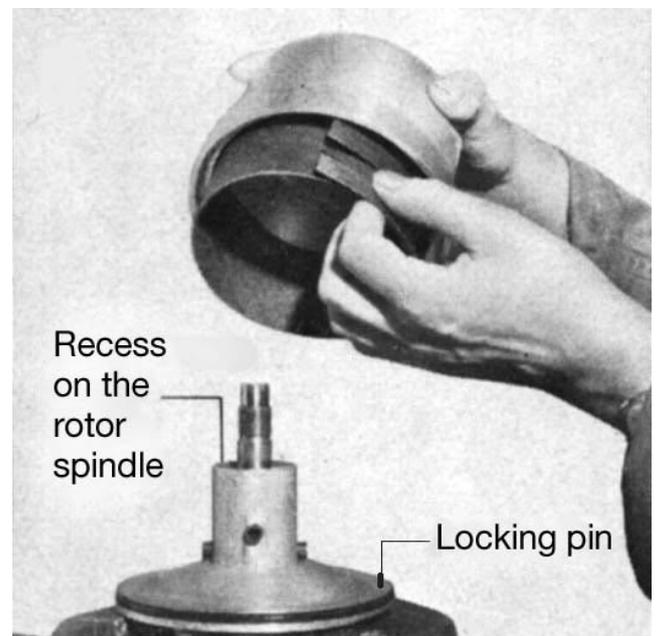

Fig. 5: Assembling rotor
- The locking pin must be seated in the appropriate bore (see Fig. 5).
- Carefully fit the rotor cover over the rotor lower section (f). In so doing, turn the rotor cover on the axis of the lower section until the cast-in guide lugs in the cover engage in the appropriate recesses on the spindle of the rotor lower section (see Fig. 5).